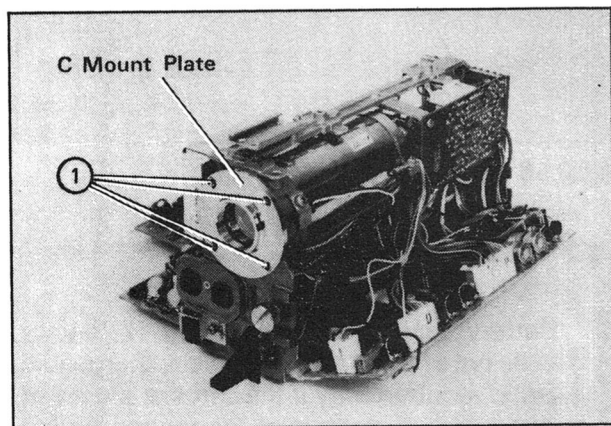

Fig. 3.13 Removal of C-mount Plate
- (2) Remove the four screws ①, shown in Figure 3.13, and remove the C-mount plate